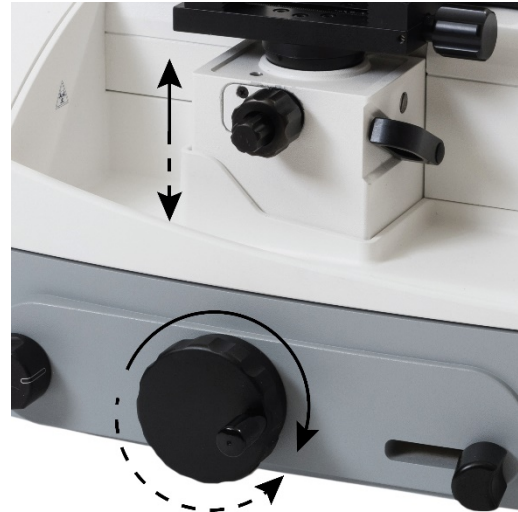

Figure 7
- The specimen clamping can be moved 40 mm vertically up or downwards via the coarse feed wheel (Figure 7).